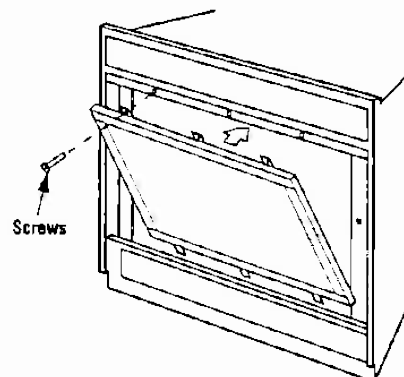

Figure 19
Step 15. Installing the Hood Assembly—Attach the hood assembly over the firebox opening with three (3) screws.
Step 16. Installing the Screen Assembly—Position the screen assembly in front of the firebox opening, with the joint in the gasket down (Figure 19). Locate the three (3) tabs at the bottom edge of the frame into the three (3) brackets at the base of the fireplace front opening. Lean the frame back towards the fireplace, install the three (3) $\frac{1}{4}$ "-20 x 1" Phillips pan head screws removed previously and tighten to secure.